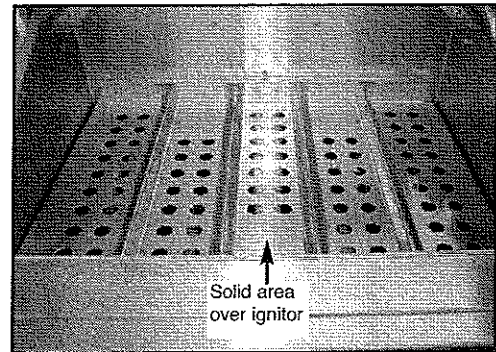

Fig. 13
1. Insert the Flavor Grid into the bottom of the grill with the ridges facing up. Be sure the middle sections solid area is covering the front ignitor. (See Fig. 13)